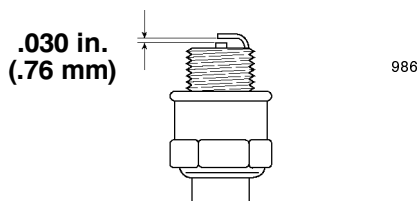

Figure 31
5. Set the gap on the new plug to 0.030 inch (0.76 mm) (Fig. 31).